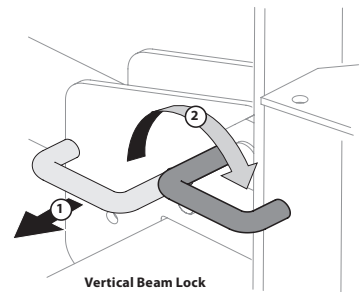

Figure 14
- b. To lock the beam in the vertical position, pull out on the vertical beam lock and rotate it to secure the beam. See Figure 14.